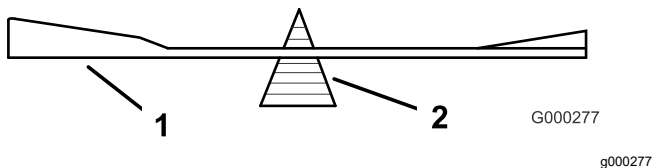
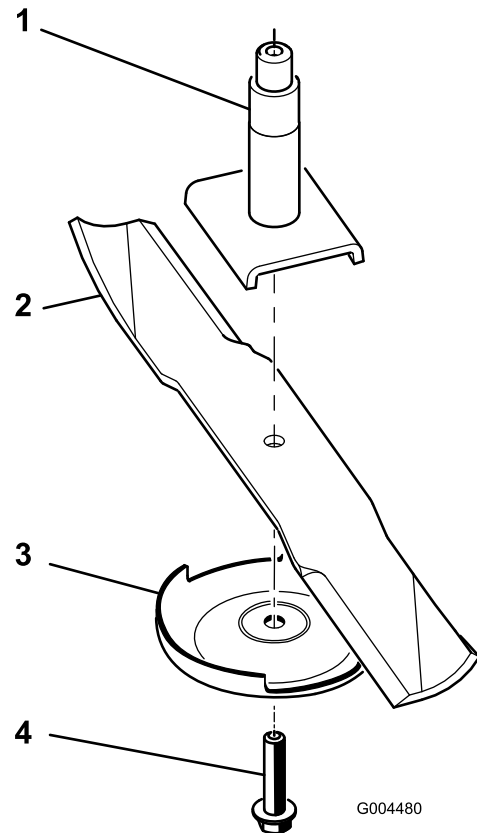

Figure 24
Figure 25
4. Remove the blade bolt, anti-scalp plate, and blade from the spindle shaft; refer to Figure 25 in Installing the Blades (page 19).
2. Check the balance of the blade by putting it on a blade balancer (Figure 24). If the blade stays in a horizontal position, the blade is balanced and can be used. If the blade is not balanced, file some metal off the end of the sail area only (Figure 25). Repeat this procedure until the blade is balanced.
1. Install the blade onto the spindle shaft (Figure 25).
2. Install the anti-scalp plate and blade bolt (Figure 25).